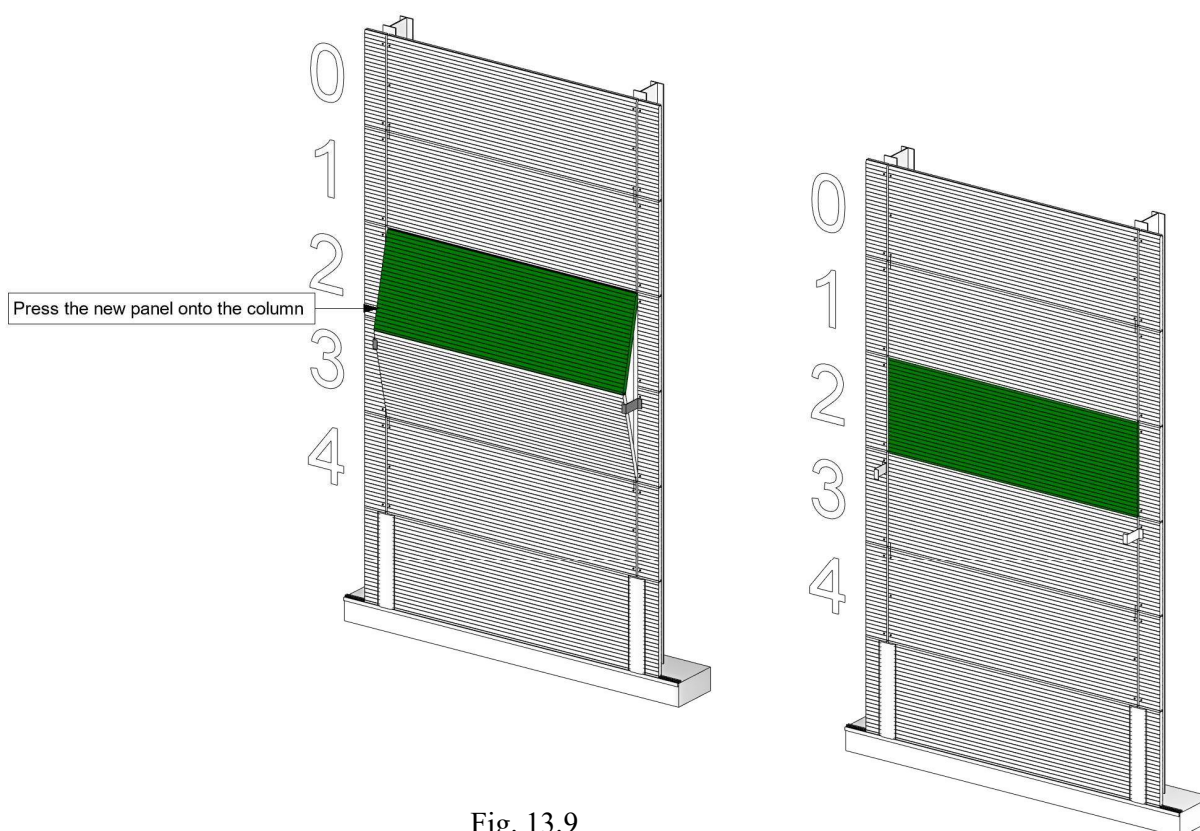

Fig. 13.9
STEP 11. Press the panel onto the column and check whether they are connected correctly (panel must fit well onto the column) (Figure 13.9).